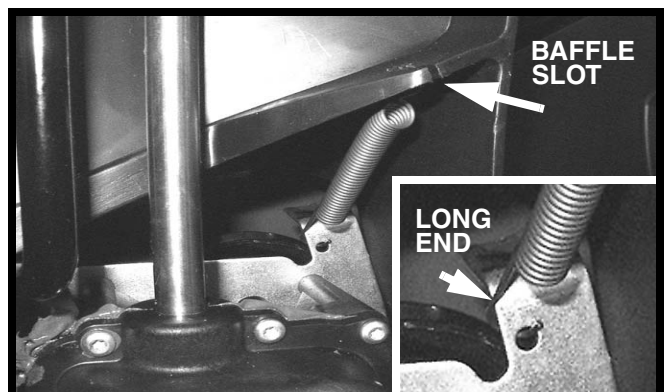

FIGURE 3
10. Note how the transmission's pull back spring is attached to the transmission. Unhook the spring from the baffle slot. See Figure 3.